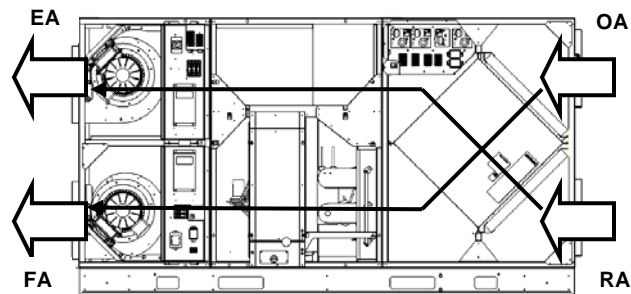

Figure 3-7
The RD2X is designed for **Outside Air (OA)** to enter the top right hand compartment of the unit and flow through the energy exchange core or bypass. The **Fresh Air (FA)** then flows through the coil, if present, and exits the blower and unit at the bottom left hand compartment. The **Return Air (RA)** inside the building enters the bottom right hand compartment of the unit and flows through the energy exchange core. The **Exhaust Air (EA)** then exits the blower and unit at the top left hand compartment. See Figure 3-7.